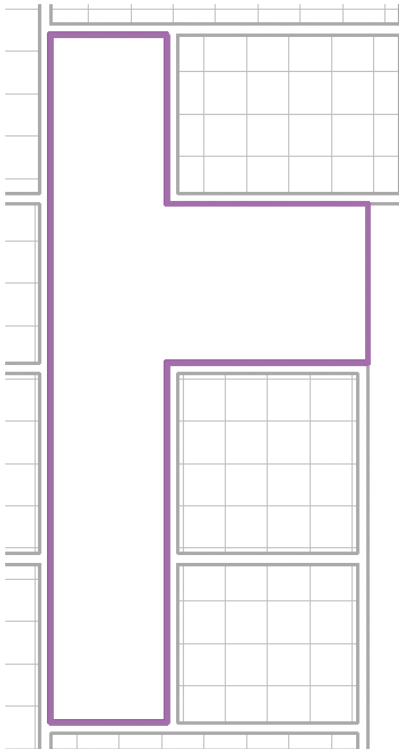

FIGURE 3.32 Creating a GWB On Mtl. Stud Ceiling
7. Create a GWB on Mtl. Stud Ceiling for the area shown in Figure 3.32.